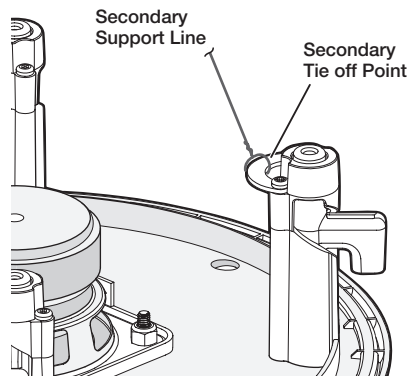

Figure 22. Attaching Secondary Support Lines
- 21. Attach the secondary support line (open back configuration)** — Attach the secondary support line as shown in figure 22.